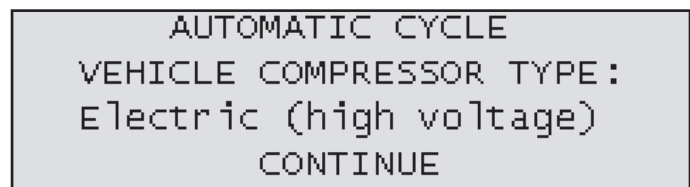

Fig. 16: Compressor type selection
- A screen will then appear to adjust the vehicle's compressor type (Fig. 16). Use $\leftarrow \rightarrow$ to change between **ELECTRIC** and **MECHANICAL** compressor type, press \downarrow to select **CONTINUE**, then press \leftarrow .